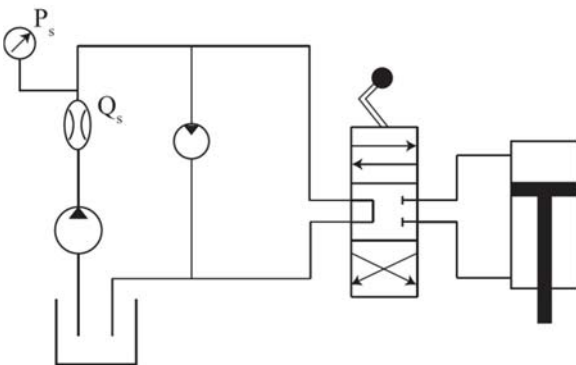

Figure 3
Procedure (Part 2: Figures 3&4)
- Predict qualitatively the speed of the motor for the various states in the parallel circuit (Figure 3)